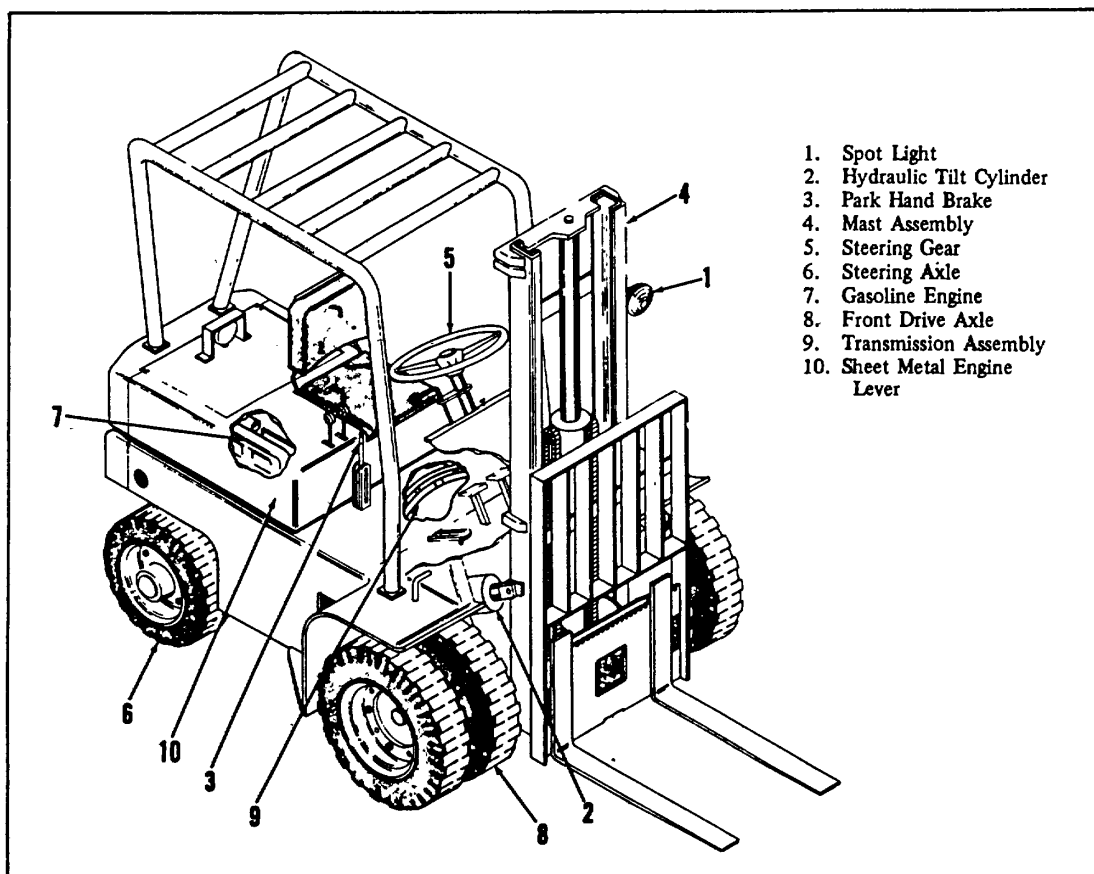

Figure 4-1. Fork Lift Truck Components
**4-2.** This section contains instructions for the removal and disassembly of major assemblies of the fork lift truck (see figure 4-1). Minor repair and adjustment instructions related to removal and replacement are also given to the extent such work could be performed with the tools and equipment normally available to the using facility.
5. With front wheels removed, or truck front blocked up for access, remove the two capscrews and lock washers at each bearing cap (see figure 4-1) and remove caps and bearing inserts. Remove assembly from truck.